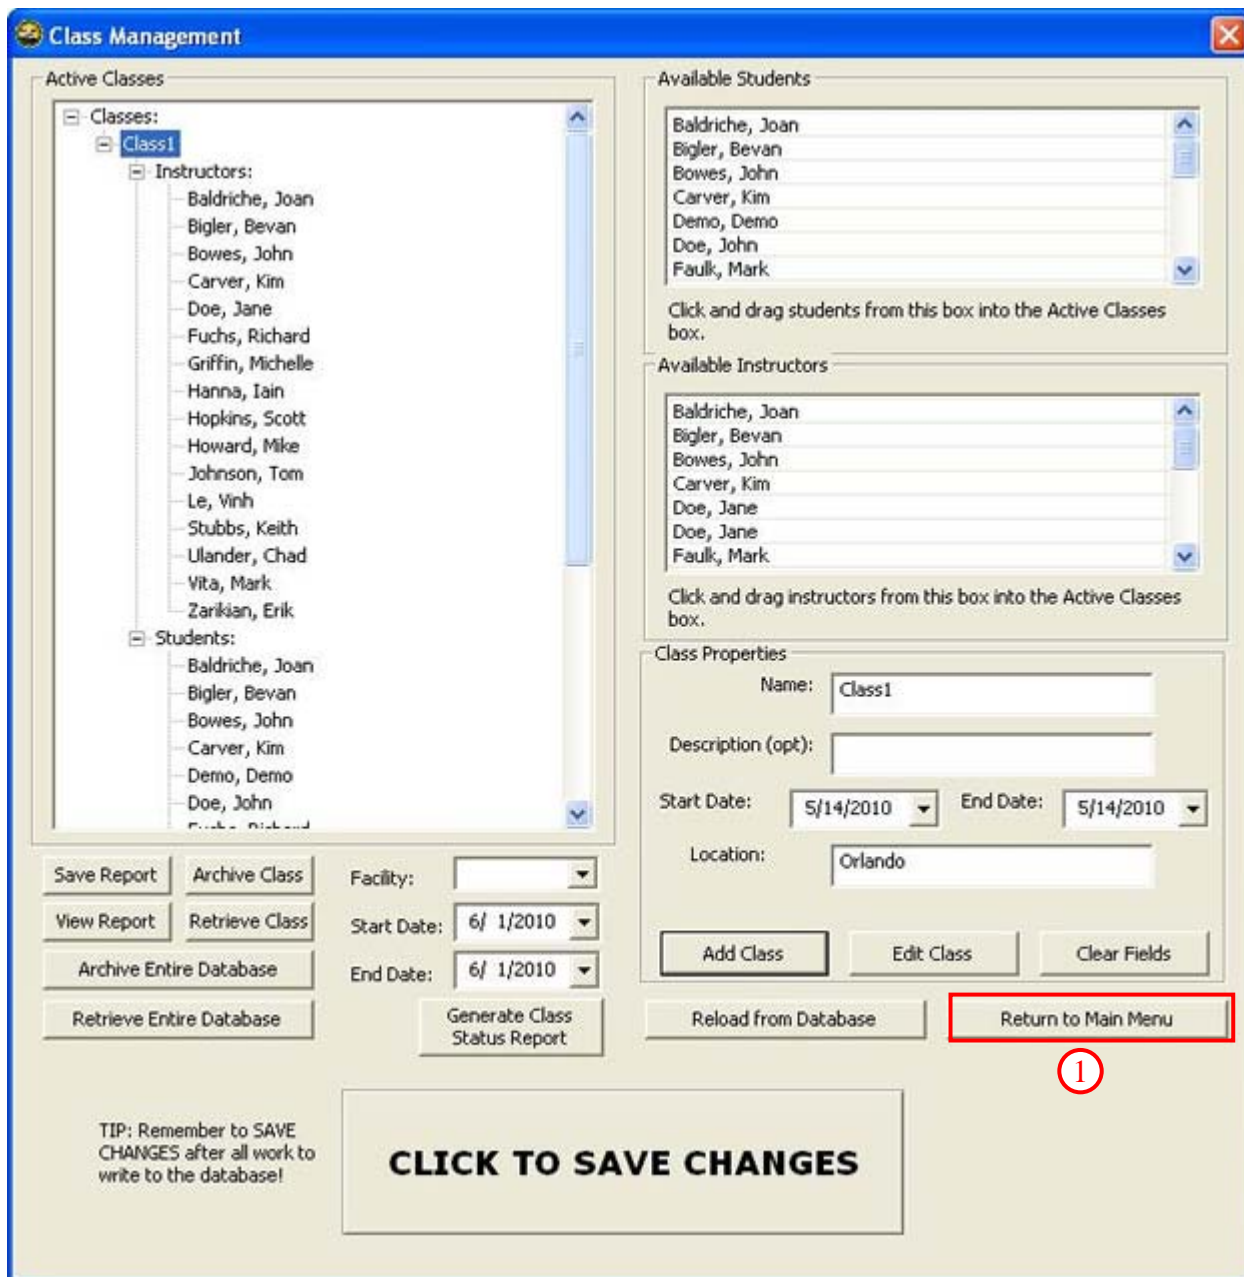

Figure 100. Class Management - Return to Main Menu
1. Click the [RETURN TO MAIN MENU] button (Figure 100) to close the screen and return to the Main Menu.